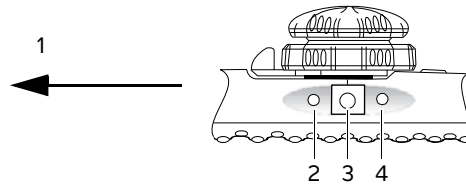

Figure 2-7 Scan plane rotation controls
The scan plane rotation is driven by a motor in the transducer handle and is controlled by buttons on the handle (see Figure 2-7).
Press the Biplane button (the center button) on the endoscope handle. See Figure 2-7 on page 2-10.
- 3 Press the scan plane control buttons on the handle to rotate the scan plane counterclockwise (0° to 180°) and clockwise (180° to 0°). See **Figure 2-7** on page 2-10.